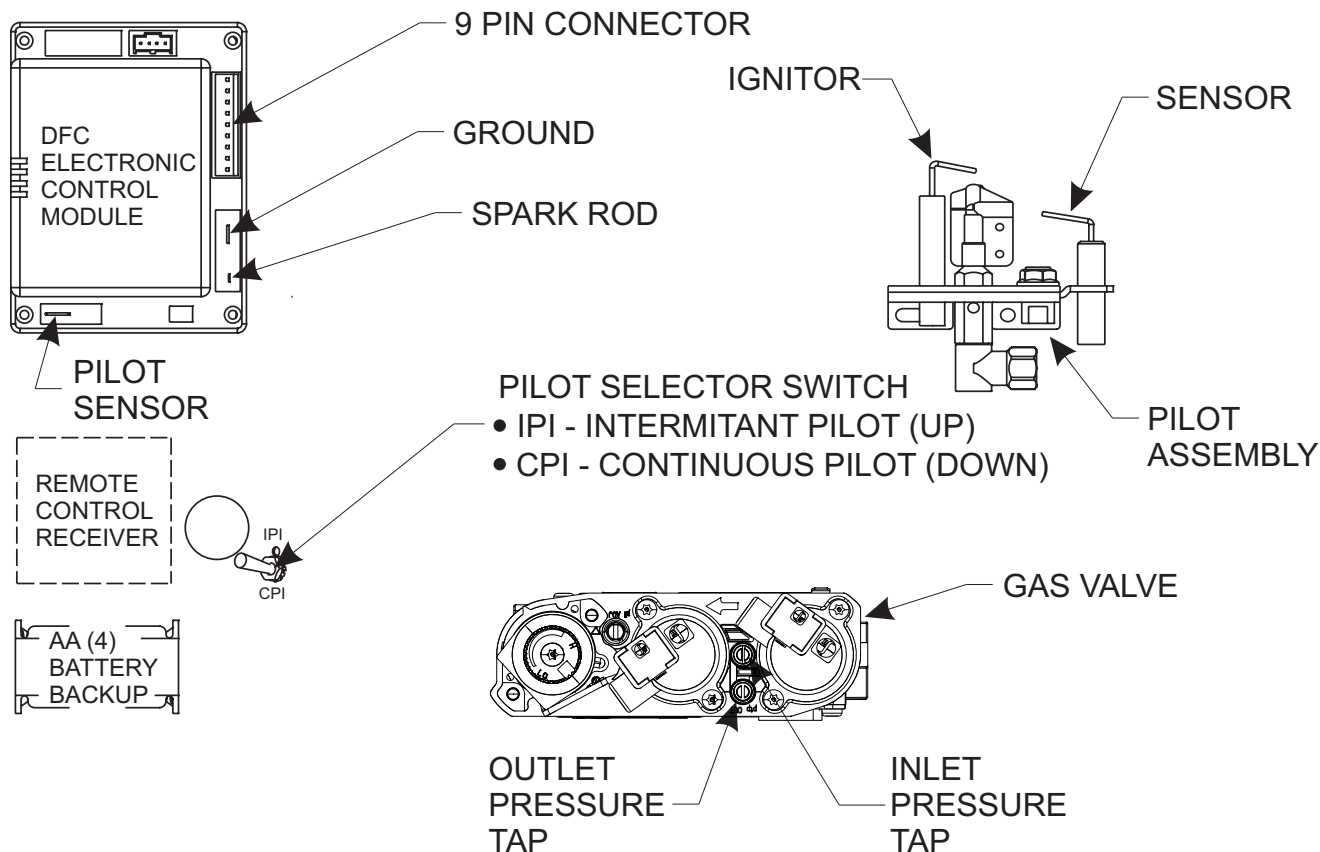

Figure 23
NOTE: A small toggle switch is located on a bracket that is used to switch from IPI (upward position) to the CPI (downward position). See Figure 23.
3. The gas valve has inlet and outlet pressure taps as shown in Figure 23. Refer to pages 10 and 11 for gas pressure requirements.
NOTE: The gas control has a manual HI/LO flame adjustment knob (regulator) that allows you to increase or decrease the height of the burner flame. See Figure 23. Rotate the HI/LO knob counterclockwise to "HI" to increase the flame height, and clockwise to "LO" to decrease the flame height.